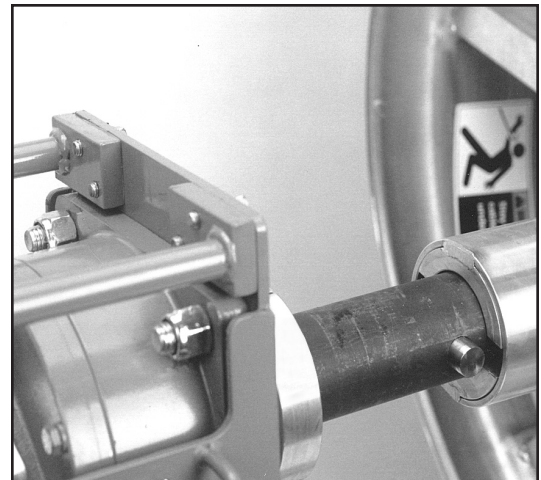

Figure 4. Capstan Assembly
1. Attach the 30 inch (762 mm) diameter capstan to the puller's shaft (figure 4) by aligning the capstan's slots with the shaft's pins. Push the capstan onto the shaft until it stops, then rotate clockwise until it stops. Pull outward to lock the capstan into position. **Make sure the shaft locking pins are visible through the holes in the capstan hub.**